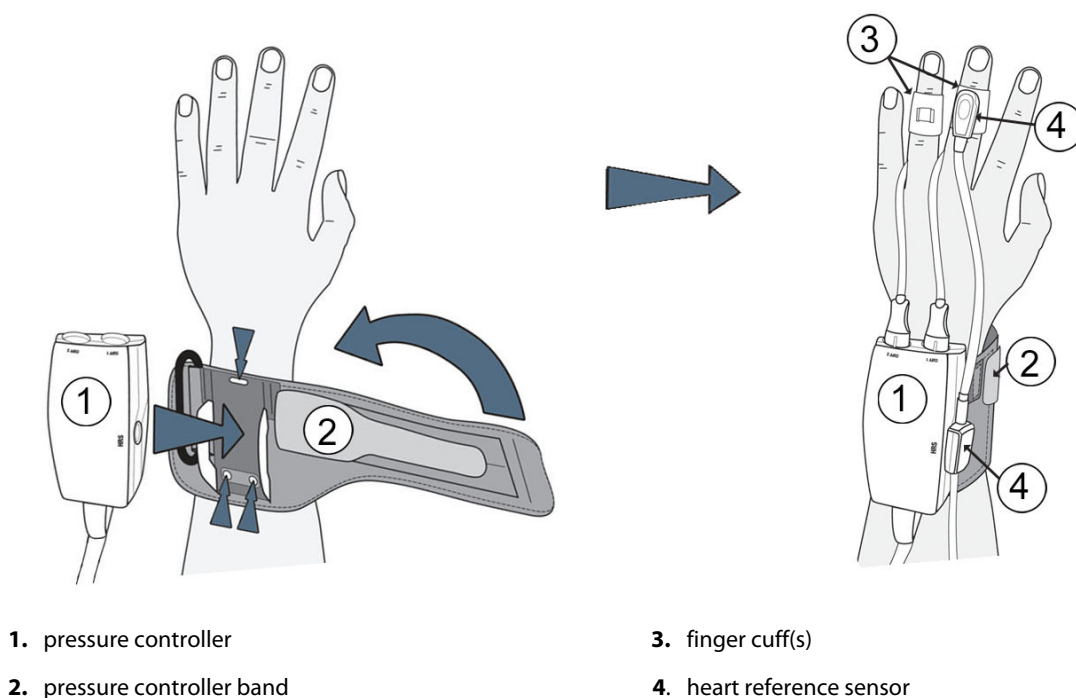

Figure 11-2: Pressure controller application
The pressure controller kit (PC2K or HEMPC2K) consists of a pressure controller (PC2 or HEMPC) and accompanying band (PC2B). A pressure controller cover is available as an accessory. The pressure controller cover secures the heart reference sensor into the pressure controller. See Pressure Controller Cover on page 383. Device performance, including functional characteristics, have been verified in a comprehensive series of testing to support the safety and performance of the device for its intended use when used in accordance with the established Instructions for Use. The pressure controller is worn on the patient's wrist and connects to the HemoSphere ClearSight module, HRS and finger cuff(s). See Figure 11-2 on page 207.
1. Wrap the pressure controller band around the patient's wrist. The non dominant hand is preferred for monitoring in awake patients. (Figure 11-2 on page 207, left)